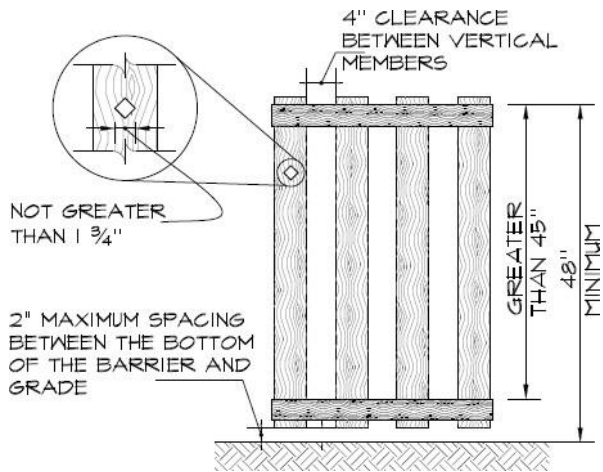

Figure 4
2. Where the barrier is composed of horizontal and vertical members and the distance between the tops of the horizontal members is *45 inches or more*, spacing between vertical members shall not exceed 4 inches. Where there are decorative cutouts within vertical members, spacing within the cutouts shall not exceed $1\frac{3}{4}$ inches in width. **See Figure 4.**